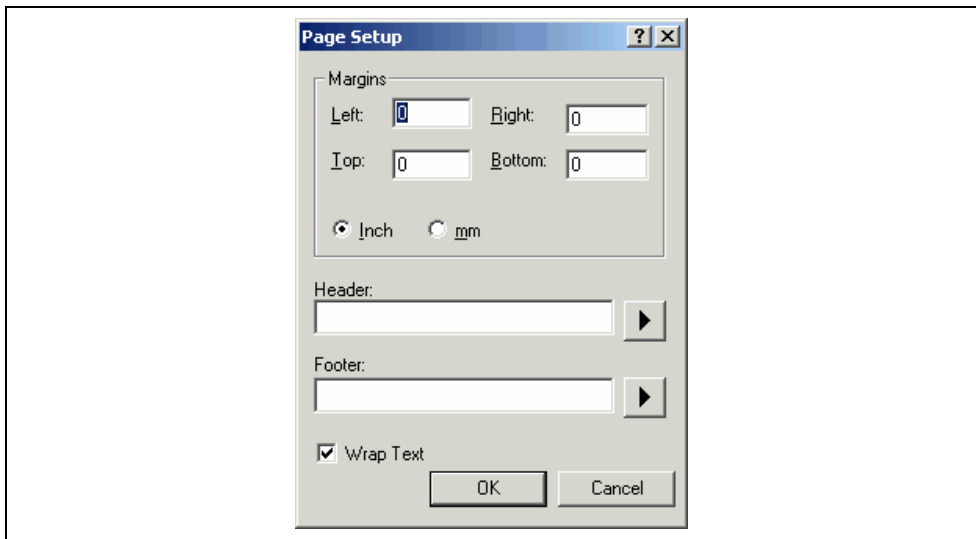

Figure 4.6: Page Setup Dialog
1. Select [**File->Page Setup...**]. The “Page Setup” dialog will be invoked (figure 4.6).